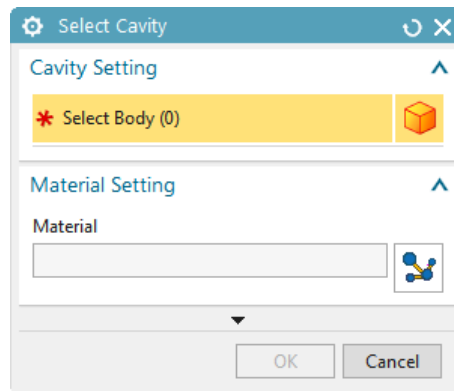

Figure 16-70 The Select Cavity dialog box
1. Choose the **Set Cavity** tool from the **Setting** group of the **Easy Fill Advanced** tab in the **Ribbon**; the **Select Cavity** dialog box is displayed, refer to Figure 16-70.